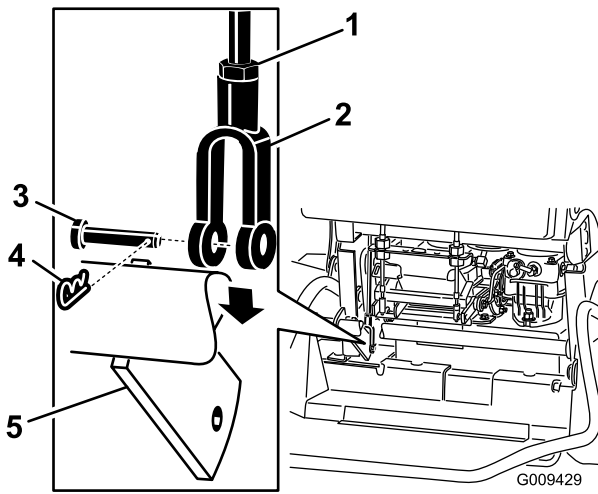

Figure 59
5. To adjust the brake, remove the hair pin cotter and clevis pin from the lower brake lever and yoke (Figure 59).
6. Loosen the jam nut (Figure 59).
7. Rotate the yoke. To tighten the brake, rotate the yoke up. To loosen the brake, rotate the yoke down (Figure 59).
8. Secure the yoke to lower brake lever with the hair pin cotter pin and clevis pin (Figure 59).
9. Tighten the jam nut (Figure 59).